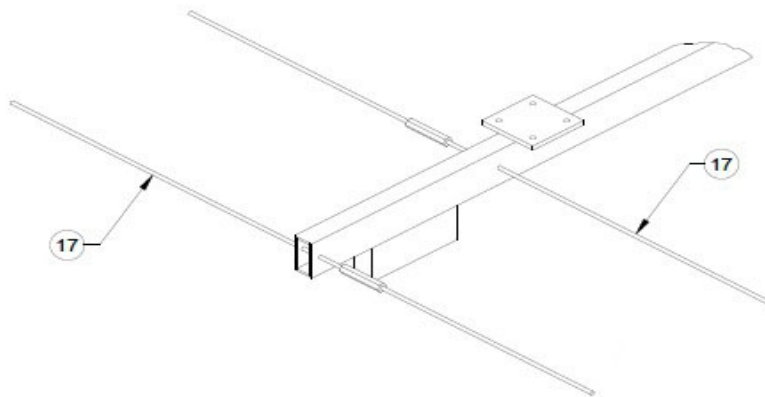

Figure 4: Rectangular Support Assembly
3. Insert a threaded rod, long end first (17), through the first pre-drilled hole in the rectangular support tube (see Figure 4). Step across the rectangular support tube and insert another rod, long end first, through the second pre-drilled hole. The idea is to stagger the coupler on opposite sides of the rectangular support tube for stability.